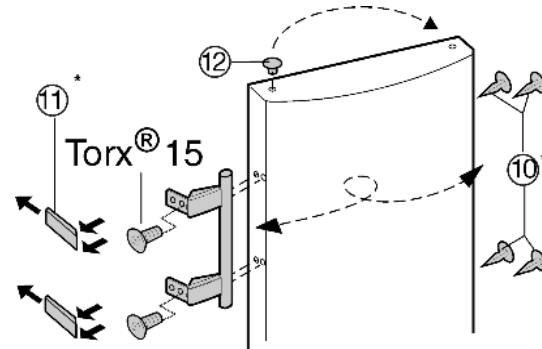

Fig. 8
- ▶ Lift the stopper Fig. 8 (12) out of the door bearing bush and transfer it.
- ▶ Detach door handle, stoppers Fig. 8 (10) and pressure plates Fig. 8 (11) and transfer to the opposite side.